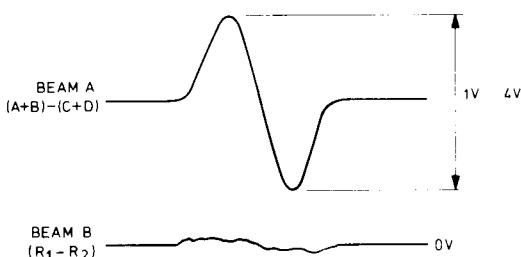

Fig. 7
- The amplitudes and waveform are shown in Fig. 7.